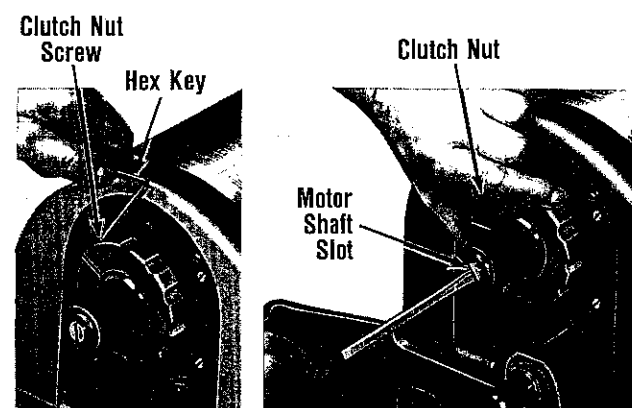

Figure 6. Clutch Adjustment
**Clutch Adjustment (Refer to Figure 6)**